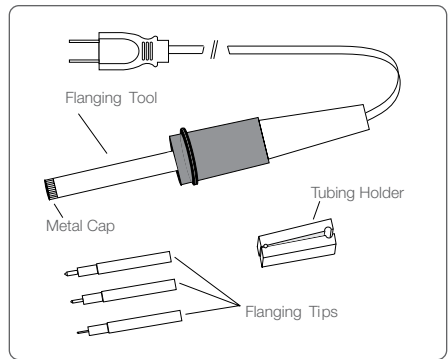

Figure 1. Installation of the flanging tip.
1. Prior to heating, unscrew the metal cap on the end of the flanging tool (Figure 1).